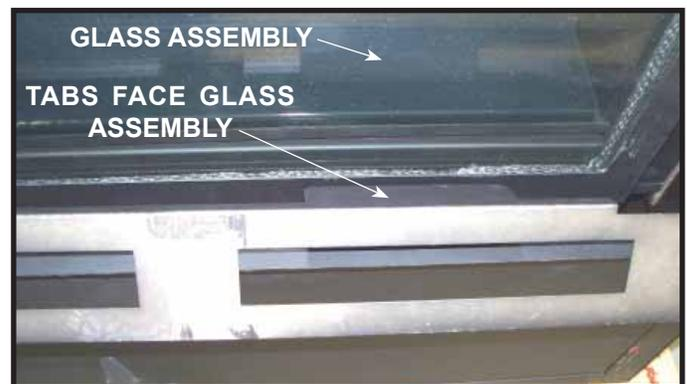

Figure 5. Positioning Access Panel.
4. Position access panel so tabs are facing the glass assembly. Insert into glass frame. See Figure 5.